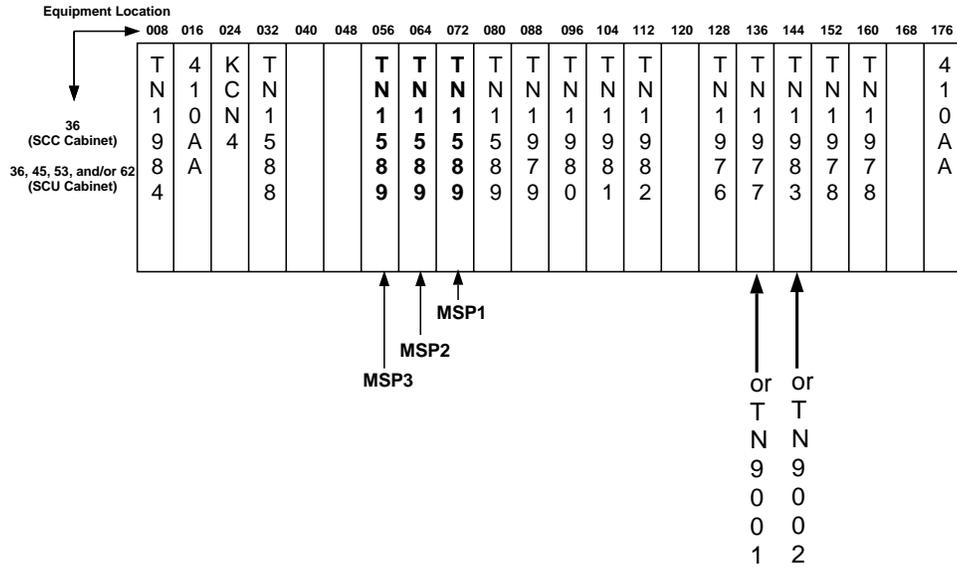

Figure 3. SCU Circuit Pack Locations
(See J4A024AB-1.) (See Figure 3 for circuit pack location.)
2. Install the optional TN1589 MSP circuit packs at the appropriate locations as shown in Figure 3.